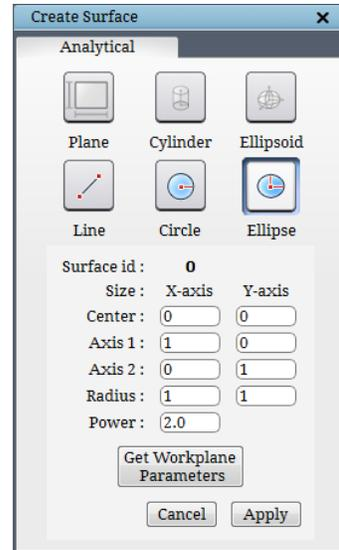

Figure 3.21: Ellipse dialog box
*Ellipse* in **Create Surface** dialog box opens ellipse parameters as shown in Figure 3.21. As discussed earlier, the center, the major axis and the minor axis fields require two real numbers each (representing the x and y coordinates/components) separated by white-space and the radius & the